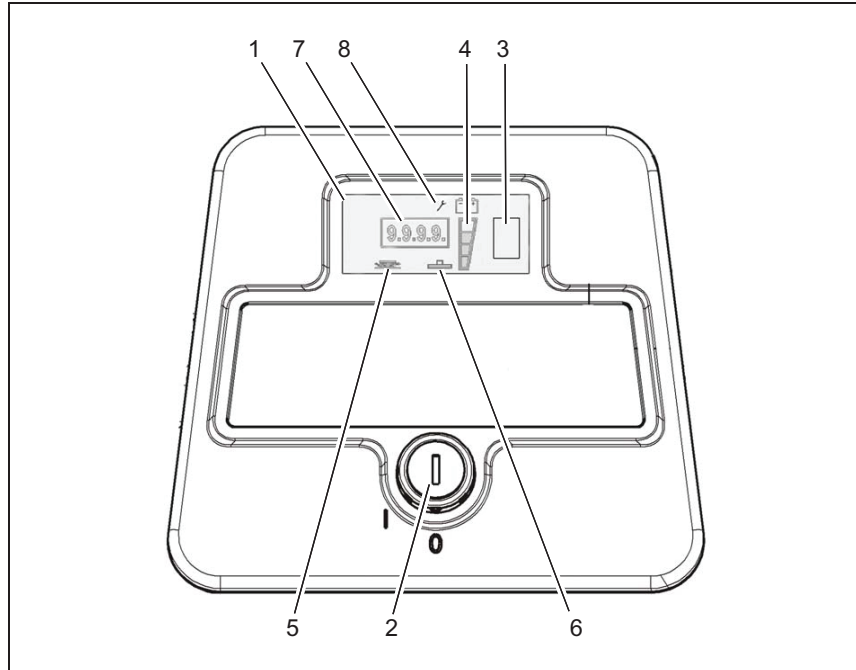

Fig.4
2. Use lever (Fig. 4/4) to lower squeegee. Suction turbine switches on automatically.
3. Use regulator (Fig. 4/3) to adjust clear water amount.
4. Use pedal (Fig. 4/10) to lower brush head. Clear water supply switches on automatically.
Display (Fig. 4/1)
Battery charge indication (Fig. 4/3)
LDS indicator (Fig. 4/4)
Symbol brush drive (Fig. 4/5)
Symbol suction turbine drive (Fig. 4/6)
Hourmeter (Fig. 4/7)
Service indicator (Fig. 4/8)